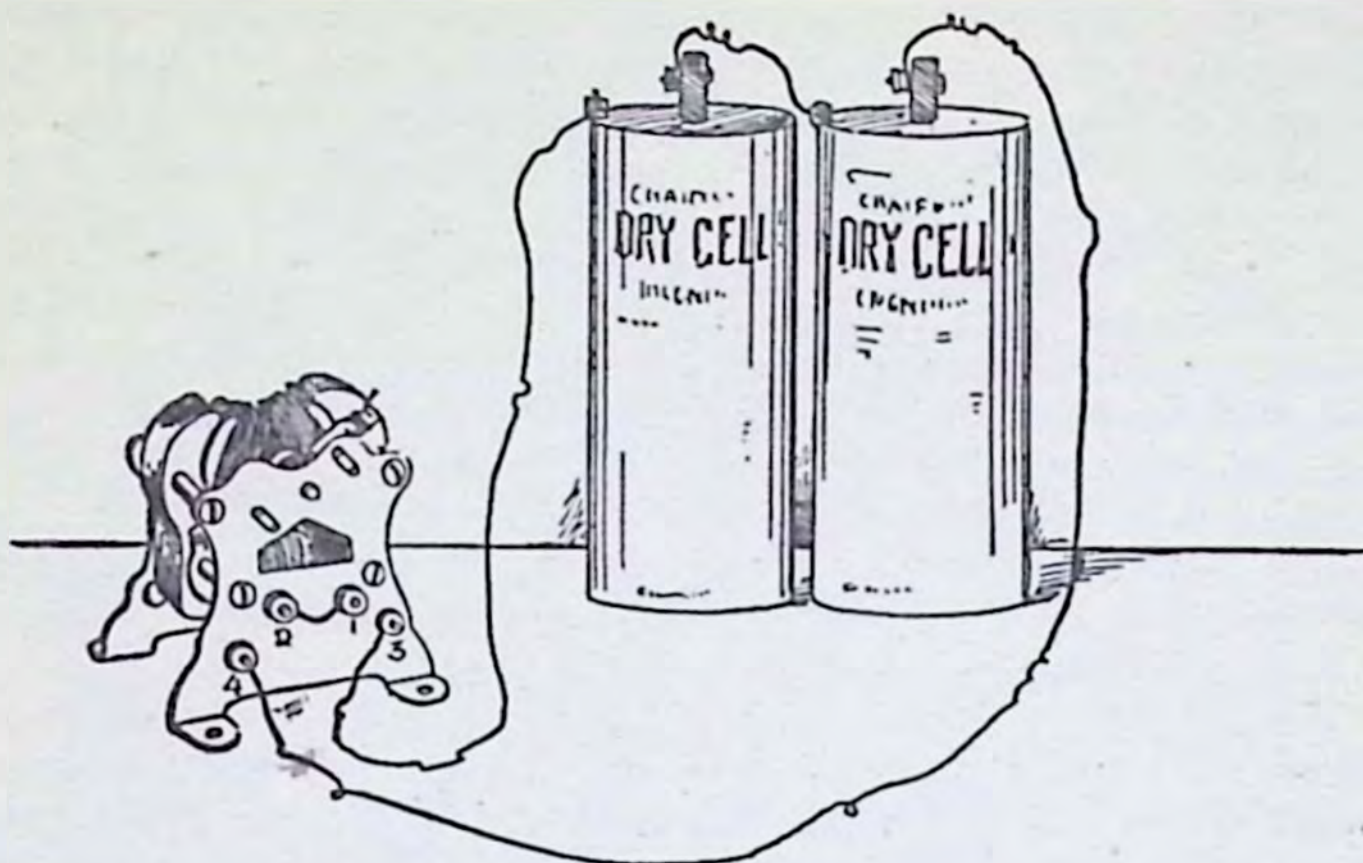

Fig. 15
**(17) HOW THE MOTOR MOTES:** By which I mean, how the motor works. Connect the binding posts 3 and 4 (see Fig. 15) with a battery. Now let's suppose that the current flows into the motor through the binding post 4, when it makes its way first through the coil of the field magnet and magnetizes it. Then it passes to the binding post 1, through the connecting wire to 2, and thence to the brush.